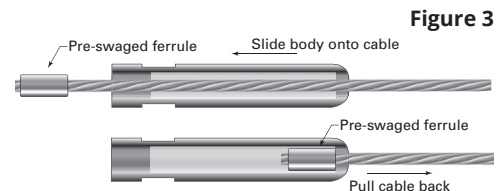

Figure 3
3. Slide the body of the Adjust-a-Body® with Hanger Bolt Tensioner onto the bare end of the cable, threaded end first, and pull it the length of the cable until it is stopped by the ferrule already swaged onto the cable. (Figure 3)